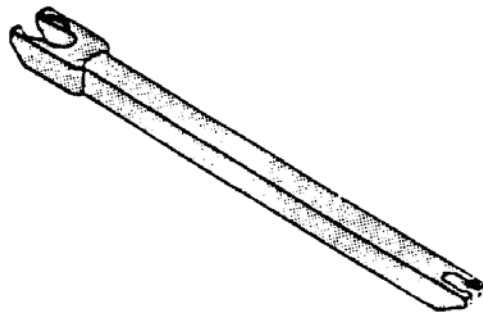

Figure 6-5. Sleeve tool.
e. **Sleeve Tool.** Use this for pressing the 1/4 and 1/8-inch tubing sleeves in place when installing the tubing on the barb fittings. Refer to figure 6-5.